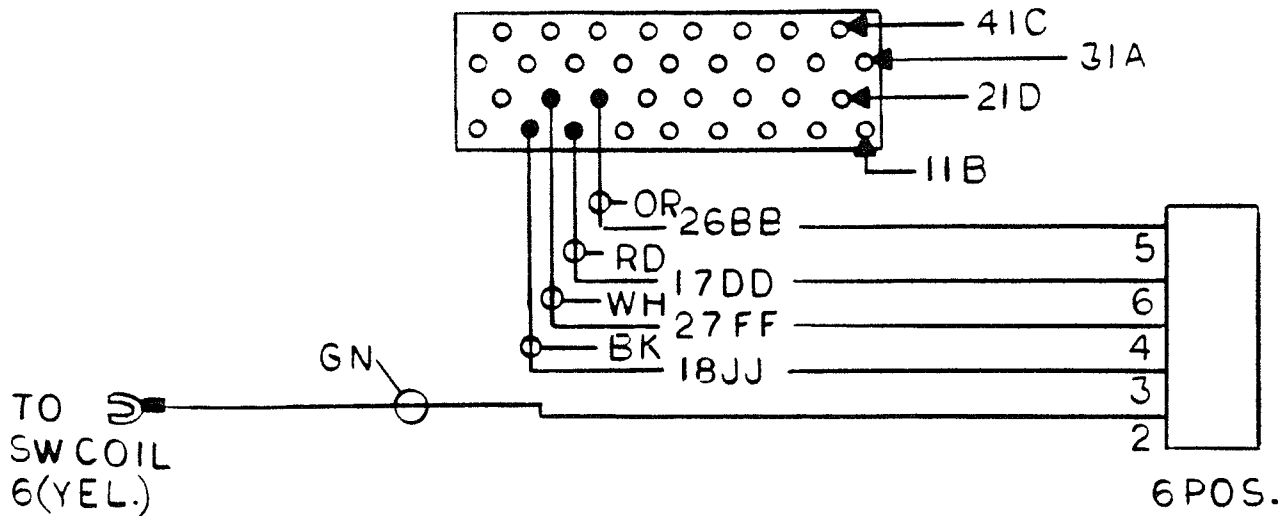

FIG. 4.
13. Locate the terminals on the ends of the red, black, white, orange and green wires on the above harness and plug into unused positions in the C1 chassis connector as shown in Fig. 4.